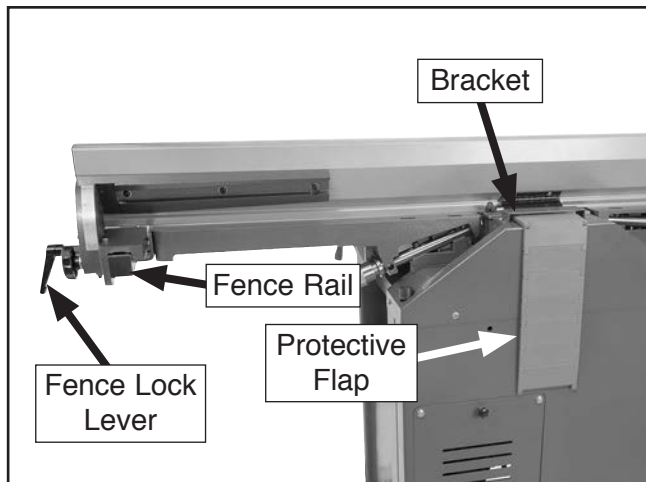

Figure 32. Fence removal components.
2. Loosen fence lock lever, slide fence toward front of machine, carefully slide protective flap through bracket, and lift fence off of fence rail (see **Figure 32**).